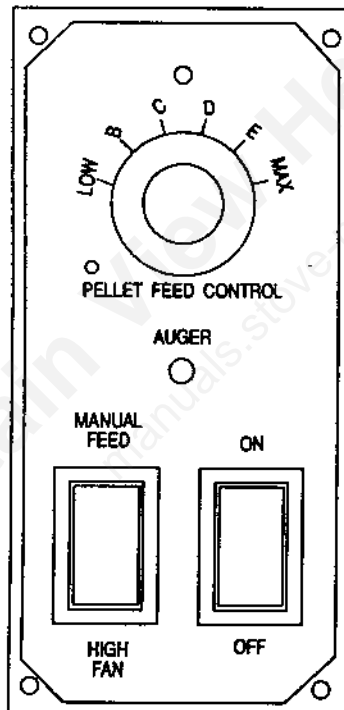

Figure 11
- c. Fill burn pot by hand or by pressing "MANUAL FEED" switch on control panel (see figure 11) fill to about half full. Add approved fire starter (see section 3.92), light and close door. Keep door tightly closed during operation.
(see figure 11)
b. **Oiling** — Blower manufacturers suggest oiling annually. See figure 11 for lubrication points. Use SAE 20W motor oil. Limit to one or two drops.